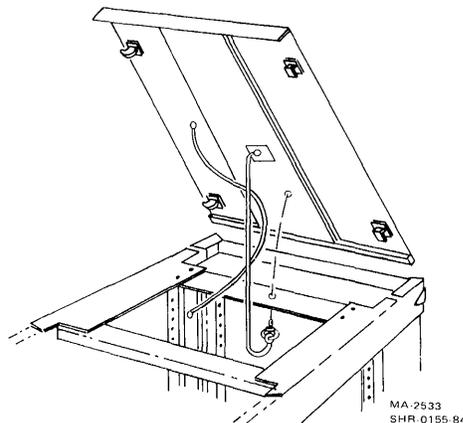

Figure 2-14 Top Cover Fastener
9. Find the fastener attached to the underside of the TA78 top cover (Figure 2-14). Release the cover by turning the fastener one-quarter turn counterclockwise. When released, the fastener hangs by a wire from the cover. Pull the cover forward about 1.27 cm (0.5 in) and lift it off. Rest the cover on top of the cabinet. Leave the ground wire connected.